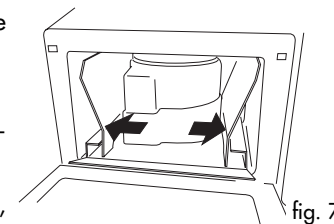

fig. 7
- Press the vertical panels outwards as indicated by the arrows (fig. 7).